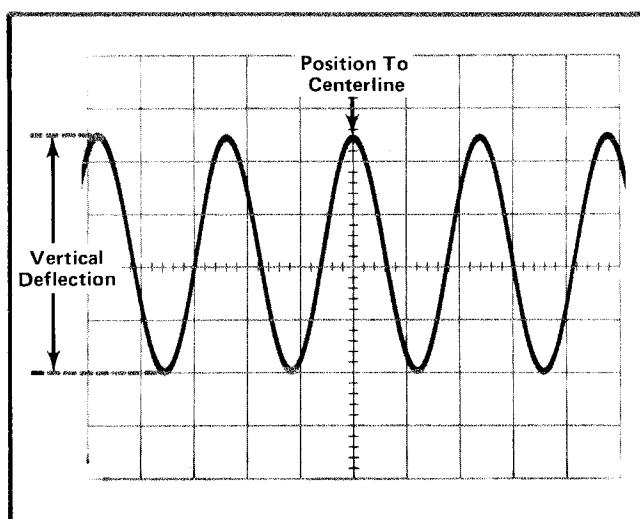

Fig. 2-2. Measuring the peak-to-peak voltage of a waveform.
6. Turn the 7A18 POSITION control so the lower portion of the waveform coincides with one of the graticule lines below the center horizontal line, and the top of the waveform is within the viewing area. With the time-base Position control, move the display so one of the upper peaks lies near the center vertical line (see Fig. 2-2).
**EXAMPLE:** Assume that the peak-to-peak vertical deflection is 4.5 divisions (see Fig. 2-2) using a 10X attenuator probe, and the VOLTS/DIV switch is set to 1 V.